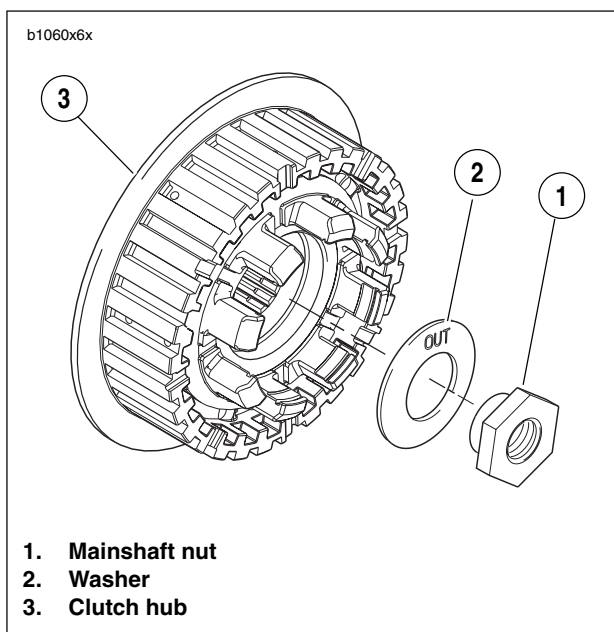

Figure 6-32. Mainshaft Nut and Washer
See Figure 6-32. Washer must be installed with the word "out" facing the mainshaft nut or transmission may be damaged.
6. See Figure 6-32. Install mainshaft washer (2) and nut (1).
- b. Place washer (2) on mainshaft with the word “out” facing away from clutch hub.
- c. Install nut (**left-hand threads**) (1). Tighten to 70-80 ft-lbs (94.9-108.5 Nm).